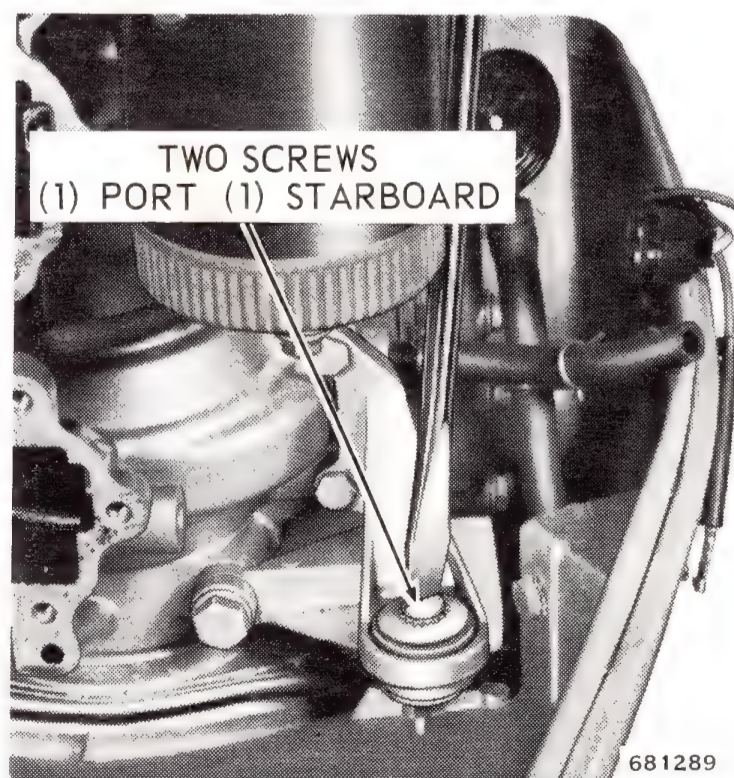

Figure 5-10. Power Head Bracket to Lower Motor Cover Screws
e. Remove crankcase front bracket to lower motor cover screws. See Figure 5-10.